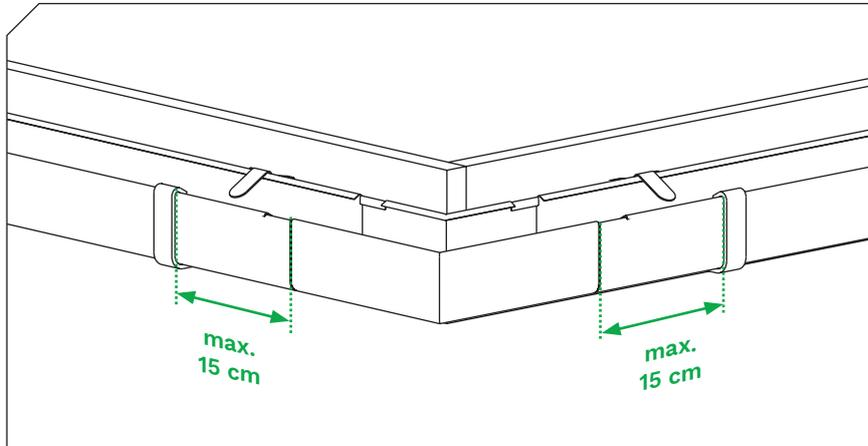

Figure 13
- 5.1 Place the brackets at a maximum distance of 15 cm from the corner. **(Figure 13)**